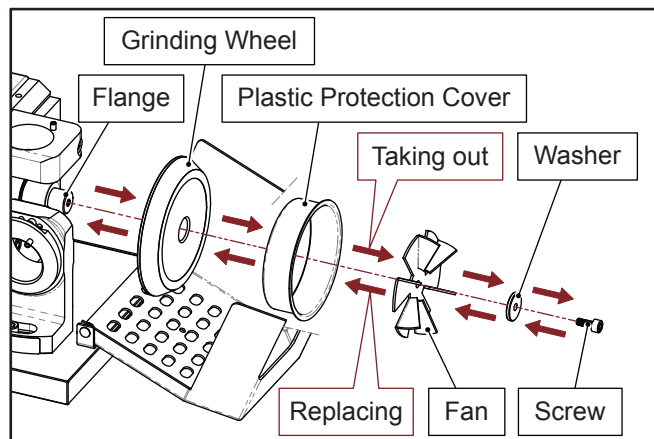

Fig. 15-3
- ④ Loosen the screw from the grinding wheel to take off the grinding wheel. (Fig. 15-3)
- ⑤ Use clean cloth to clean the flange and the contact surface of the grinding wheel.
- ⑥ Replace the new grinding wheel and fasten the screw. (Fig. 15-3)
- ⑦ Close the grinding wheel cover and secure with screw.